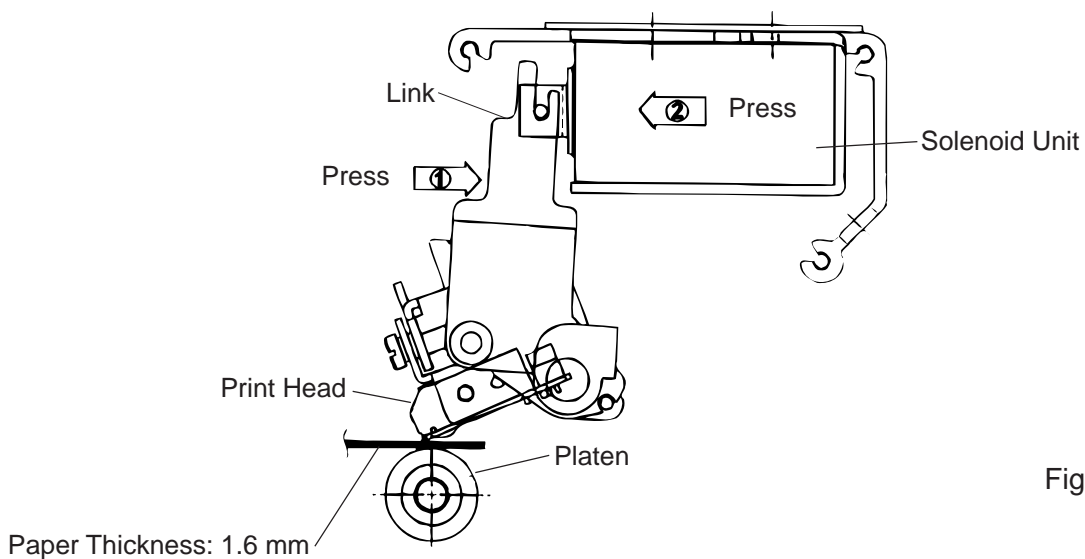

Fig. 2-11
2. NEVER remove the two screws painted red on the side of the print block. (See Fig. 2-11)